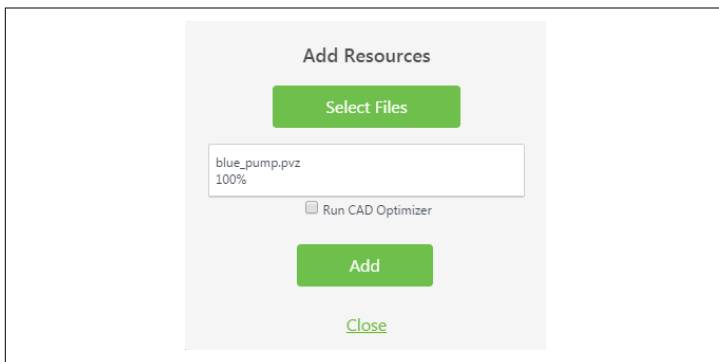

Figure 3-5. Adding a 3D resource
8. Click Add on the Add Resources window (see **Figure 3-5**).